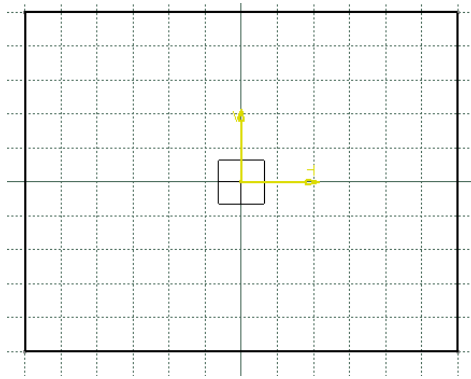

Figure 2-50 The outer loop of the sketch
- Draw the sketch of the model using the **Rectangle**, **Profile**, and **Circle** tools, refer to Figures 2-50 through 2-52.
3. Move the cursor to the location whose coordinates are 60,50 and click to specify the upper right corner of the rectangle. Figure 2-50 shows the outer loop of the sketch drawn using the **Rectangle** tool.